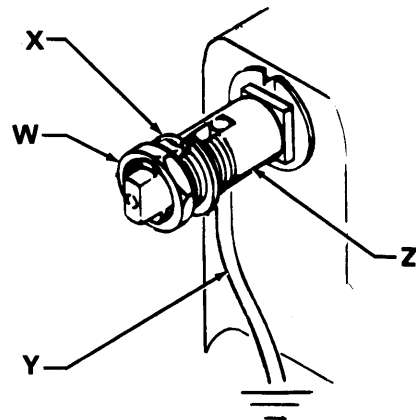

Fig 1
1. **Pump:** use a ground wire and clamp as shown in Fig 1.
To ground the pump, loosen the grounding lug locknut (W) and washer (X). Insert one end of a 12 ga (1.5 mm²) minimum ground wire (Y) into the slot in lug (Z) and tighten locknut securely. See Fig 1. Connect the other end of the ground wire to a true earth ground. See ACCESSORIES on page 9 to order a ground wire and clamp.